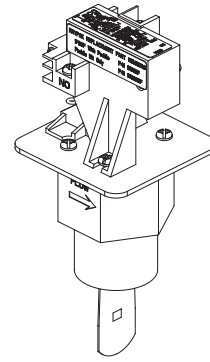

Fig. 31: Flow Switch
2. To increase the manifold pressure and increase the ratio of fuel to air turn the adjustment screw counterclockwise (toward the +) (See Fig. 31). For example, a reading of -2.0" WC (-0.5 kPa) can be increased to -1.5" WC (-0.4 kPa) by turning the adjustment screw counterclockwise. Increasing manifold pressure will increase the CO₂ percentage in the flue gases.
3. To decrease the manifold pressure and decrease the ratio of fuel to air turn the adjustment screw clockwise (toward the -) (See Fig. 31). Decreasing manifold pressure will reduce the CO₂ percentage in the flue gases.